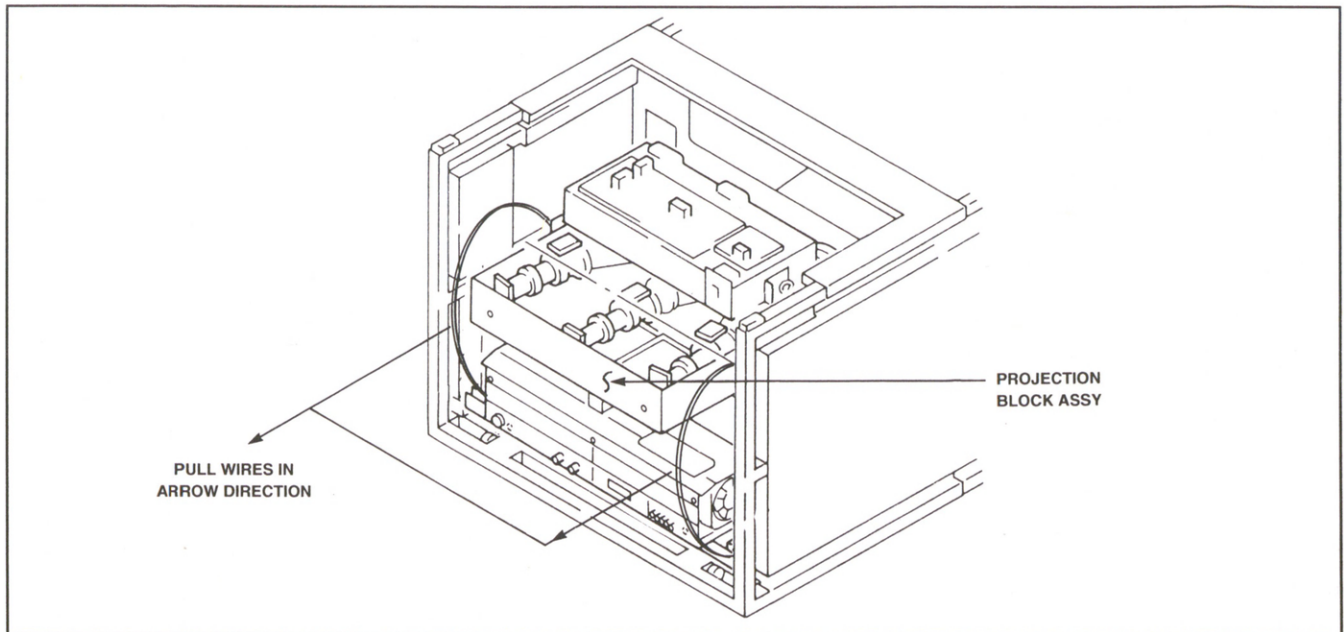

Figure 2
4. Pull loosened wires in arrow direction as shown in Figure 2.